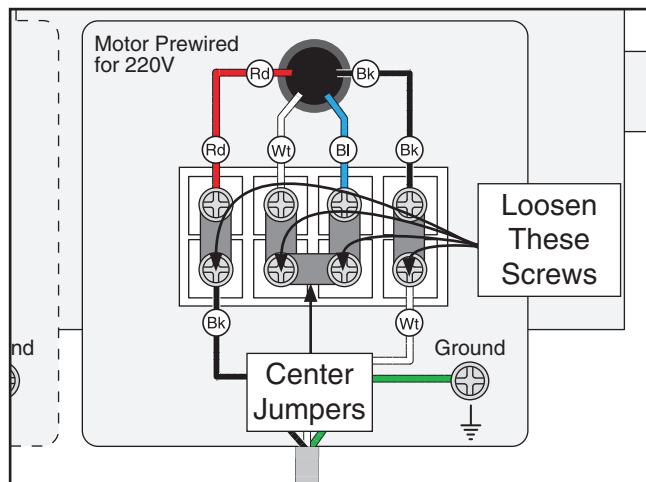

Figure 4. Location of screws to be loosened.
3. Open the motor junction box, then loosen the screws indicated in **Figure 4**.